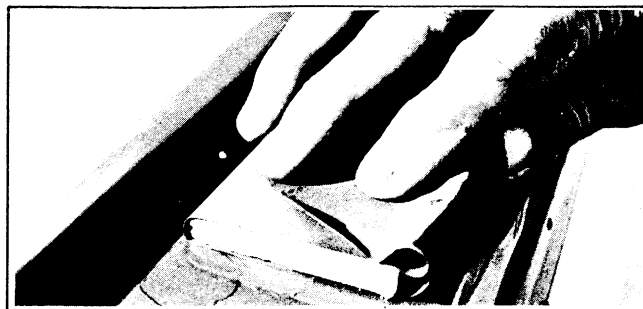

Figure 2-71. Sanding Patch
9. Sand the patched area, using a sanding block with 600-grit wet sandpaper. Finish by buffing with fine rubbing compound such as DuPont #606 and waxing. Weathering will aid to blend touch-up if a slight color difference can be observed. See Figure 2-71.